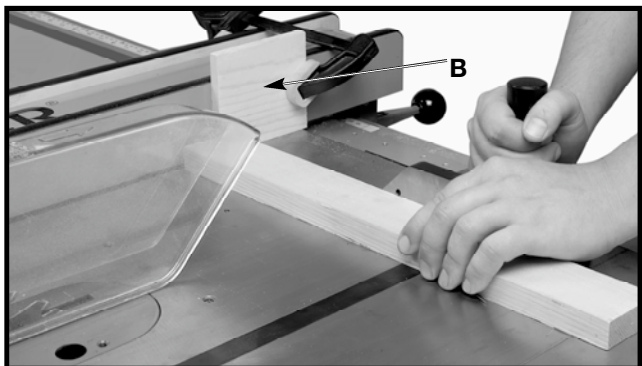

Fig. 45A
When cross-cutting a number of pieces to the same length, a block of wood (B) Fig. 45A can be clamped to the fence and used as a cut-off gage. It is important that this block of wood always be positioned in front of the saw blade as shown. Once the cut-off length is determined, secure the fence and use the miter gage to feed the work into the cut. This block of wood allows the cut-off piece to move freely along the table surface without binding between the fence and the saw blade, thereby lessening the possibility of kickback and injury to the operator.
⚠ CAUTION WHEN USING THE BLOCK (B) FIG. 45A, AS A CUT-OFF GAGE, IT IS VERY IMPORTANT THAT THE REAR END OF THE BLOCK BE POSITIONED SO THE WORK PIECE IS CLEAR OF THE BLOCK BEFORE IT CONTACTS THE BLADE.